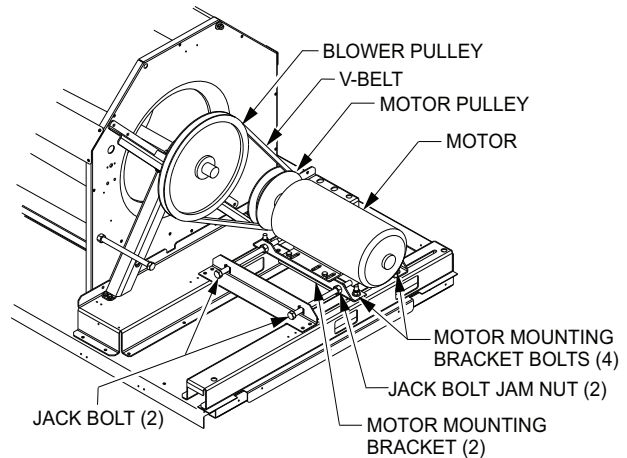

Fig. 15 — Replacing Belt-Driven Motor
When replacing the motor, use the following steps. See Fig. 15.
21. Set new motor and motor mounting bracket back onto the unit. See Fig. 15.